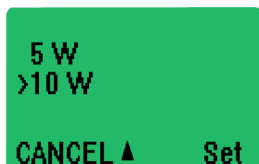

Figure 70: RF Power Output Settings
3. Press the *Change* soft key to change the TX level. A submenu is displayed with RF power output settings. Figure 70 shows the RF power output settings for the 3ASd Epic radio modem.